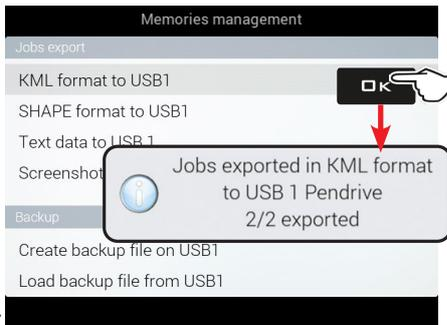

Fig. 287
- Select **KML format to USB 1** (Fig. 287) and press **OK**.